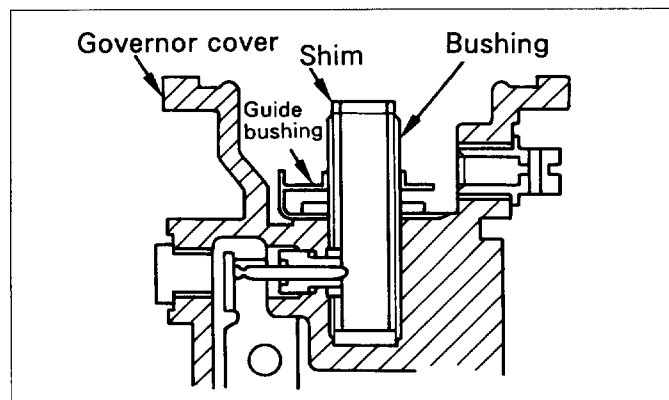

Fig.15-34 Replacing the shim
(4) Disassemble the boost compensator cover, diaphragm and spring, and then replace the shim located on the top of the bushing as illustrated in Fig.15-34.